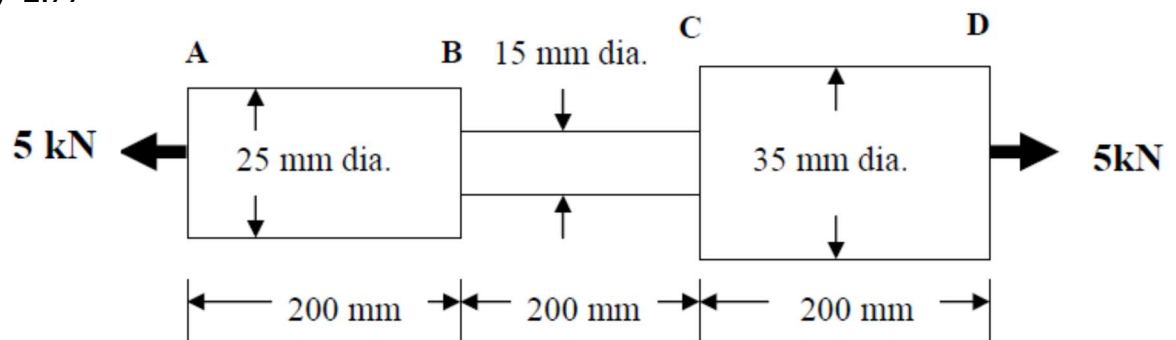

Fig.Q1
1. A steel bar comprises three sections of three cross sections as shown in Fig. Q1. The diameters of parts AB, BC and CD are 25 mm, 15 mm and 35 mm respectively. The bar is subjected to an axial tensile force of 5 kN. If Young's modulus of steel is 200 kN/mm^2 , and the elongations of the three sections of the bars are Δ_1 , Δ_2 and Δ_3 respectively, calculate the ratio of the largest to the smallest of these three elongations.